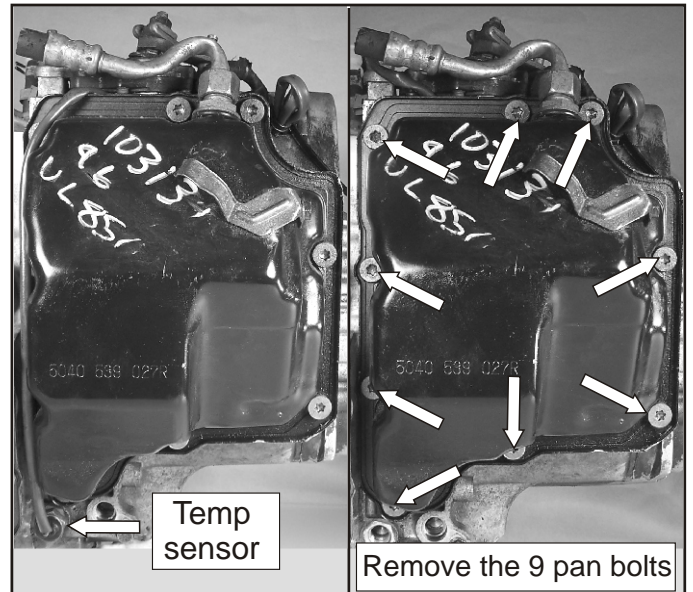

Figure 87
36. Using a 40 torx bit, remove the 9 pan retaining bolts as shown in Figure 87. *Note: the bolts are 15mm long.*